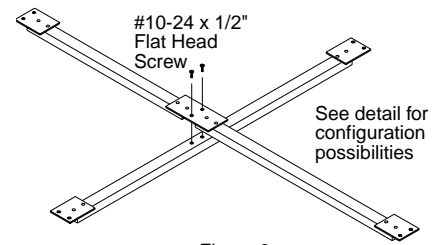

Figure 3
- ⑤ Connect horizontal brace and vertical brace using (2) #10 x 1/2" screws (see Fig. 3). See page 2 for the various configurations.